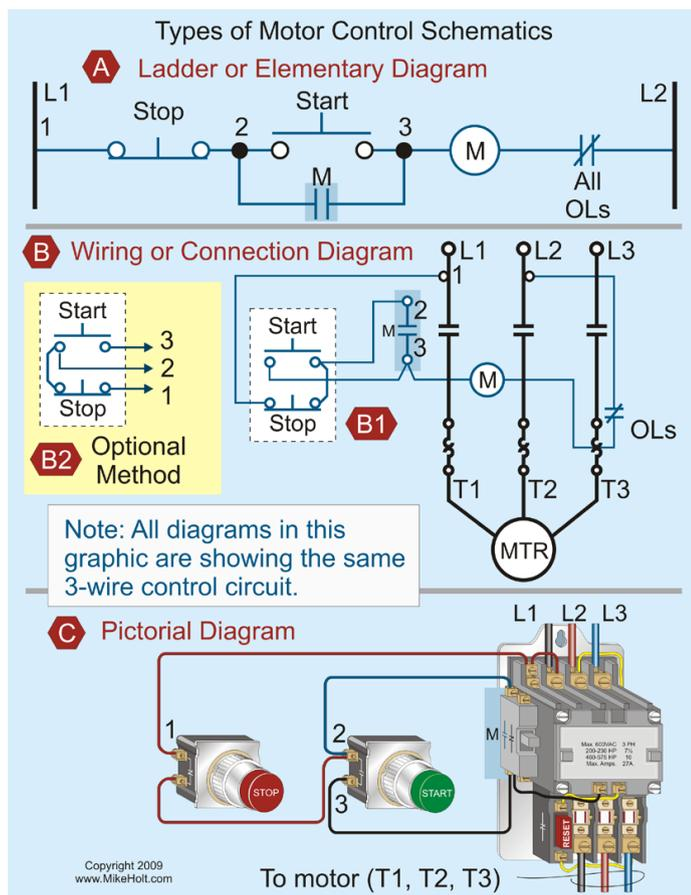

Figure 1–3
In many cases, the symbols and words have a similarity to the items they represent. The basic types of schematics are shown in **Figure 1–3**. Parts A, B, and C of that figure illustrate three different methods of representing the same control circuit.
(1) Ladder Diagrams (Figure 1–4)